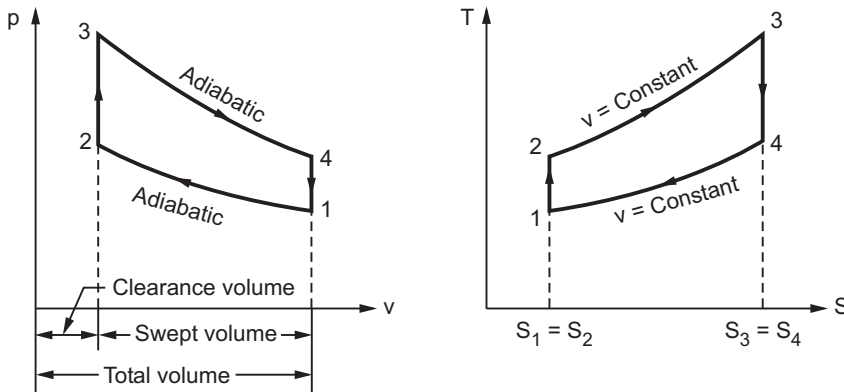

Fig. 4.6 : Otto cycle
- Fig. 4.6 shows the p-V diagram for an Otto cycle.